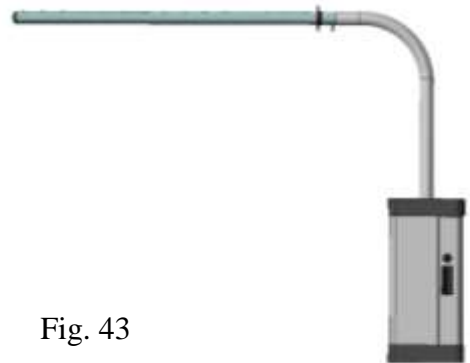

Fig. 43
1. Regardless of the type of application, a certain amount of condensate is generated inside the steam distributor. This condensate must be disposed of to avoid obstructing the steam flow. If the distributor is positioned higher than the humidifier and the steam tube does not generate siphons, condensate recovery may not require installation (e.g. Fig. 43).